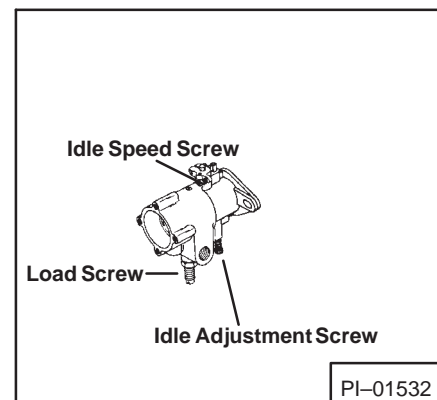

Fig. 8 LP System Carburetor
4. After the engine has been allowed to warm up, return the throttle to idle position and adjust the idle setting. The idle adjustment is made on the carburetor (Fig. 8).
5. Set the engine at full throttle and put under a full load. Adjust the load adjustment screw for maximum engine RPM (Fig. 8). If possible, a tachometer should be used for final power adjustment.